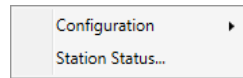

Figure 3-46 – RWIS Context Menu
- **RWIS Context Menu** (see Figure 3-46): This context menu provides the operator with options for RWIS devices available by selecting an icon on the map.